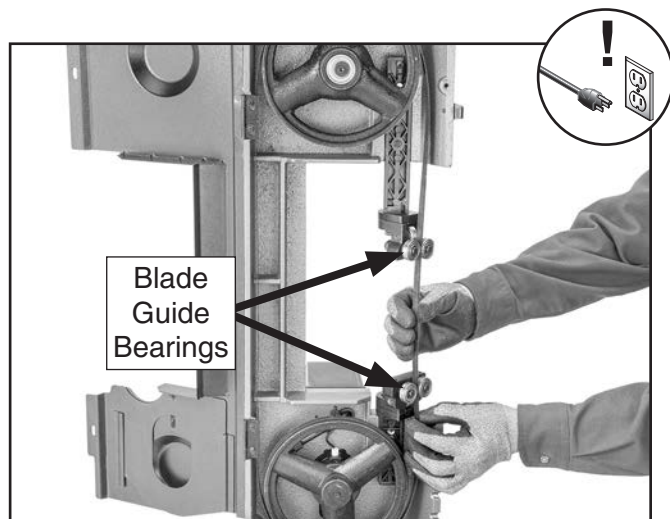

Figure 47. Installing blade.
7. Install new blade through both blade guide bearings, as shown in **Figure 47**, and around bottom wheel.